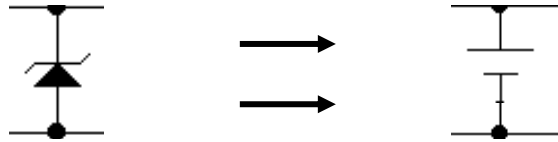

Fig .3.3
- Zener diode equivalent cct short in Fig. 3.3 ((in the zener region)) includes a small dynamic resistance and dc battery equal to the zener potential.